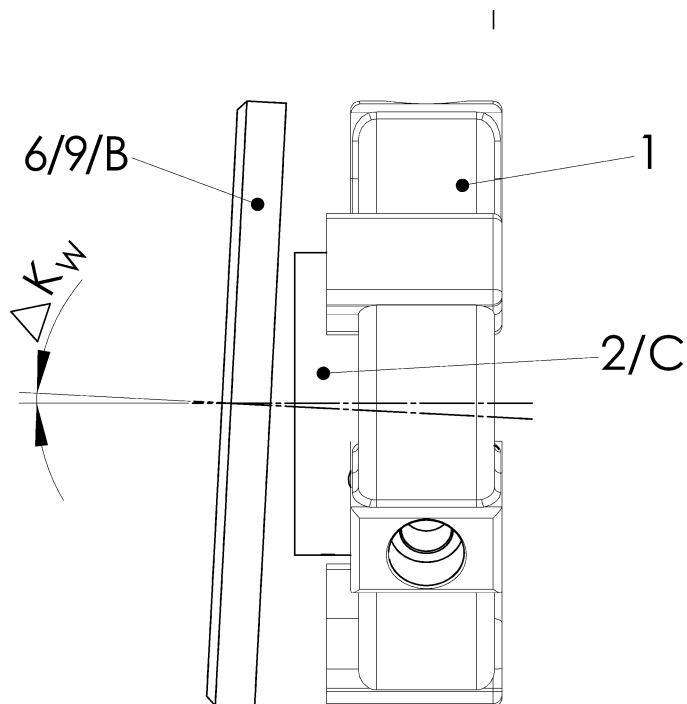

Fig. 5-3 Angular alignment
- Determine the angular misalignment (see Fig. 5-3).